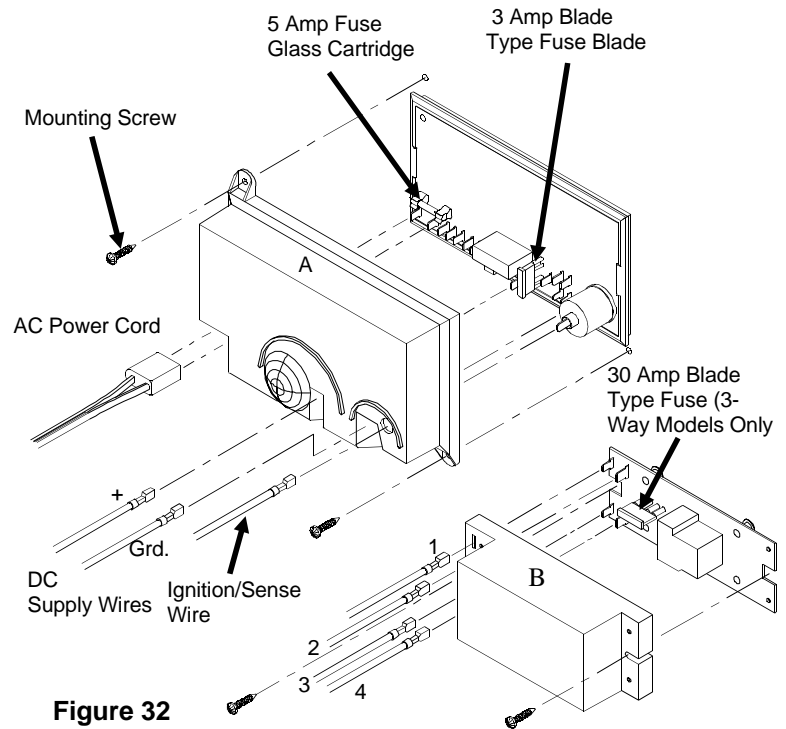

Figure 32
3. Disconnect AC power cord from power board cover (A) at rear of refrigerator.
7. For 3-Way models, disconnect the supply wires from the DC module (B) as shown in Figure 32.